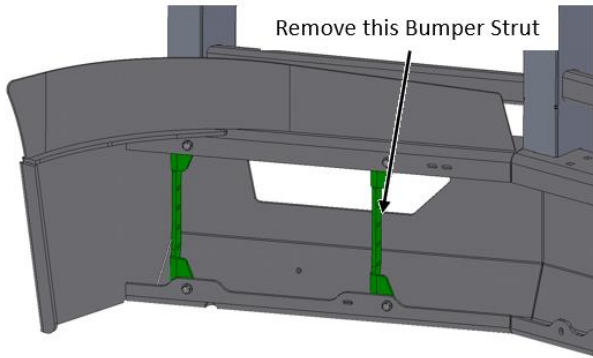

Figure 3a:
1. Remove the Inner Bumper Strut as shown in Figure 3a. Do this one side at a time